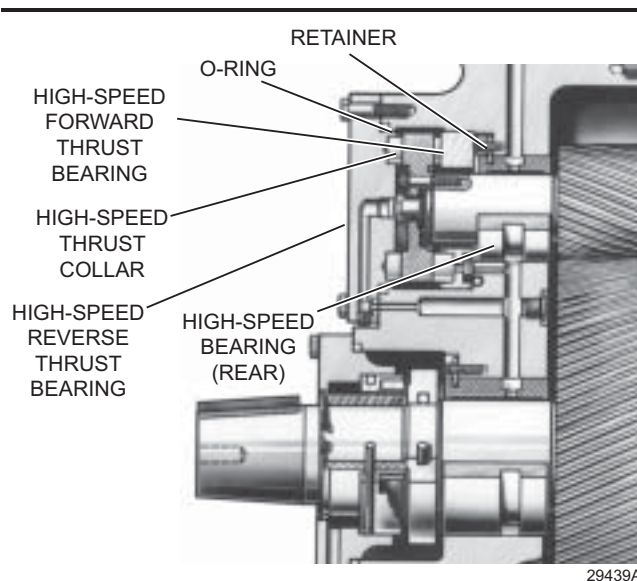

FIG. 41 – HIGH-SPEED BEARING COMPONENTS
- *The original design, shown in FIG. 41, is applicable to HA, HB, HC, HG and HH compressors.*
To remove/replace any of the components shown in FIG. 41, proceed as follows: